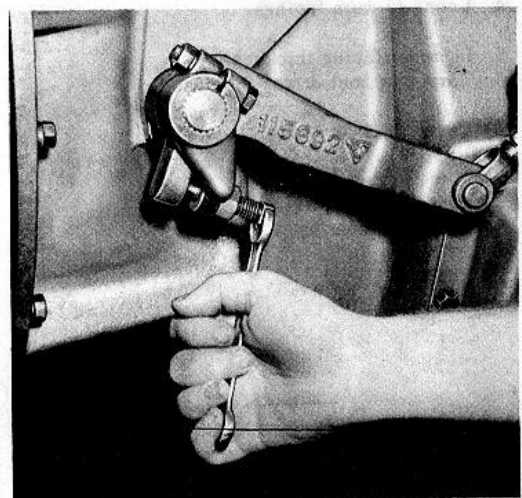

Figure 4. Adjusting Clutch Pedal Linkage
(4) If inspection indicates clutch pedal 'free travel' is less than 1/2", immediate adjustment of the clutch pedal linkage should be made to restore proper 1 1/2" 'free travel' Fig. 4. This 1" pedal 'free travel' normally results in 1/8" clearance between the clutch release levers and release bearing.
(5) If excessive free play is present in the clutch pedal linkage due to worn parts, the worn parts must be replaced. Excessive wear of the release linkage may give a false impression of the actual amount of release bearing clearance.